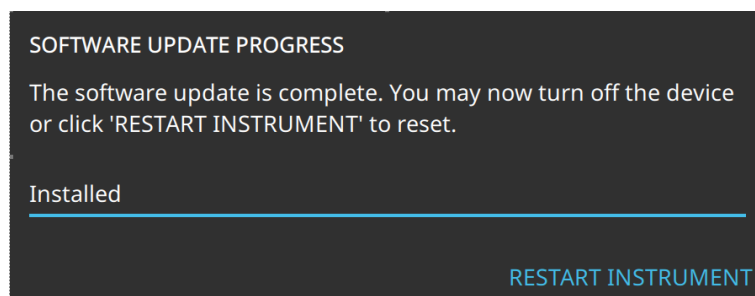

Figure C-4. Software Update Progress Dialog
8. The SOFTWARE UPDATE PROGRESS dialog is displayed as shown in Figure C-4. The installation process may take a few minutes to complete.
7. The SOFTWARE UPDATE PROGRESS dialog is displayed as shown in Figure C-4 on page C-2. The installation process may take a few minutes to complete.